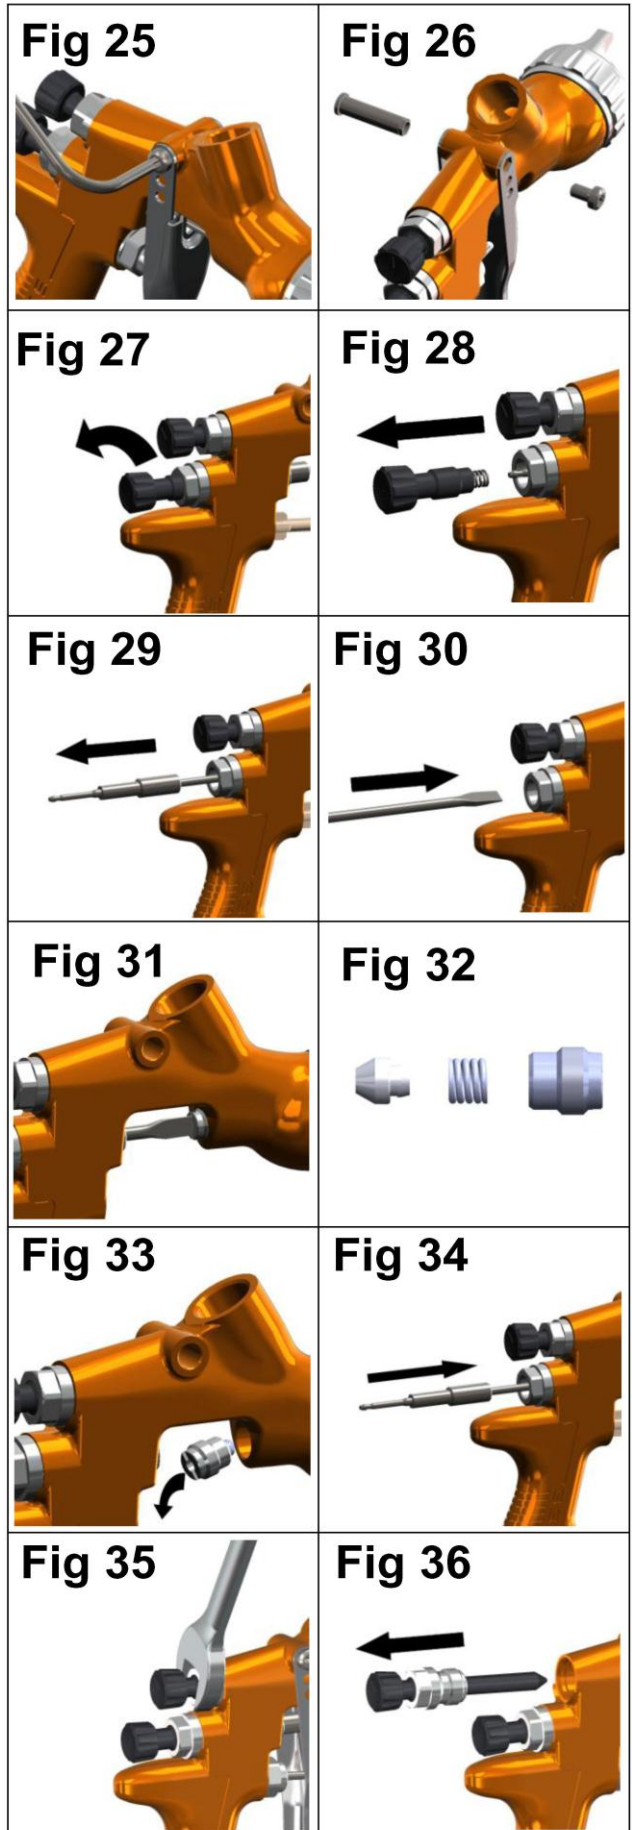

Fig 37**Fig 38****Fig 39****Fig 40****Fig 41****Fig 42****Fig 43****Fig 44****Fig 45****Fig 46****Fig 47**
1. Remove air cap and retaining ring. (See fig 37)